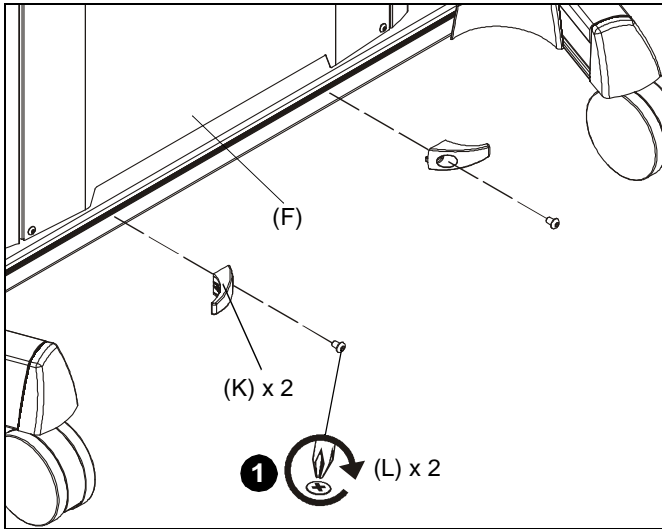

Figure 12
1. Use two 1/4-20 x 1/2" Phillips pan machine screws (L) to attach two cable hooks (K) to bottom of column assembly (F). (See Figure 12)